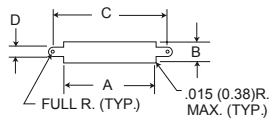

Figure 1
5. Front mounting (Figure 1) and rear mounting (Figure 3) accommodate #2-56 screws.